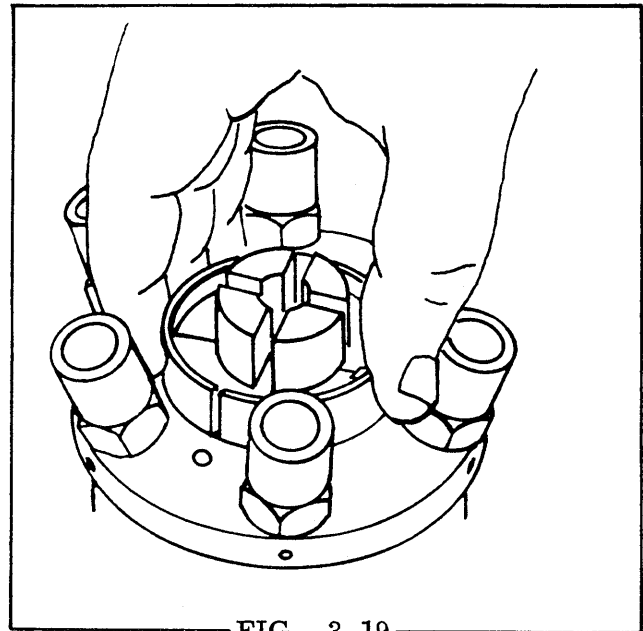

FIG. 3.19
STEP 19 Lift the liner locating ring from the rotor retainers (Fig. 3.19). (The early design transfer pump components used a locating ring without a split. Remove this solid ring by inserting two small rods or hex-key wrenches into the two holes in the ring and prying outward).